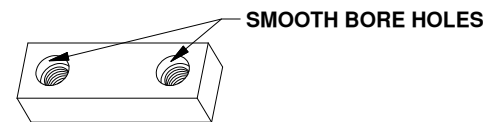

FIGURE D2: Detail of threaded block showing smooth holes.
2. Locate both pivot arms, the four 3/4" threaded blocks, eight 1/2" X 2" cap screws, and eight 1/2" split lock washers. Place the lock washers over the cap screws. Align the flat side of the pivot arm flat against the bolt plate and install four 1/2" X 2" cap screws through the holes on the arm, holding the arm in place. Locate the threaded blocks. Note that the sides of the block have threaded holes on one side and smooth bore holes on the other side. When installing the threaded blocks it is critical that the side with the smooth holes is flat against the bolt plate when installed, see Figure D2. Pass the threaded blocks through the leg and align the blocks with each set of screws and start each screw, see figure D3. After all screws are started through the arms, torque each bolt to 110 ft-lbs.